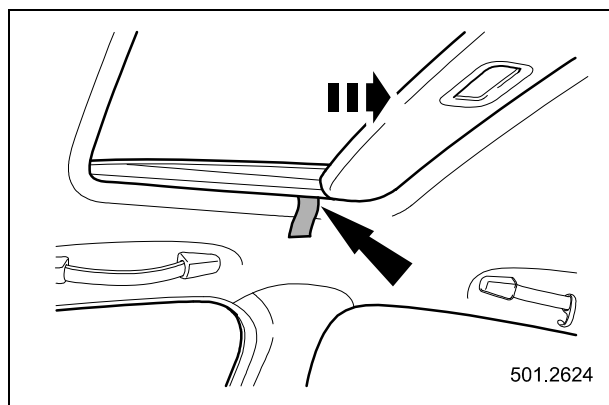

Fig. 1
- 3 Mark with masking tape on the headliner where the roof opening panel shield leading edge has stopped (see Fig. 1), both sides of the roof opening panel.